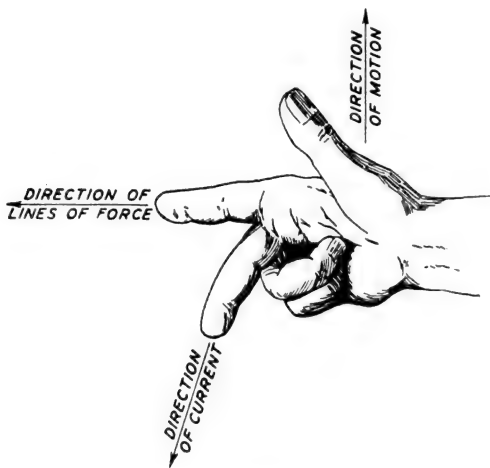
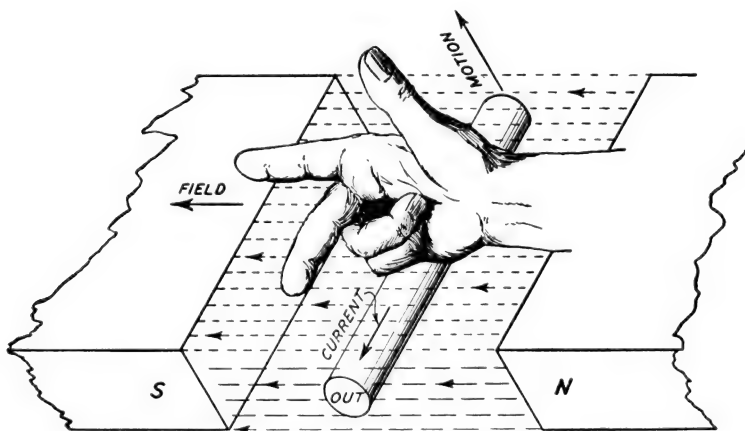
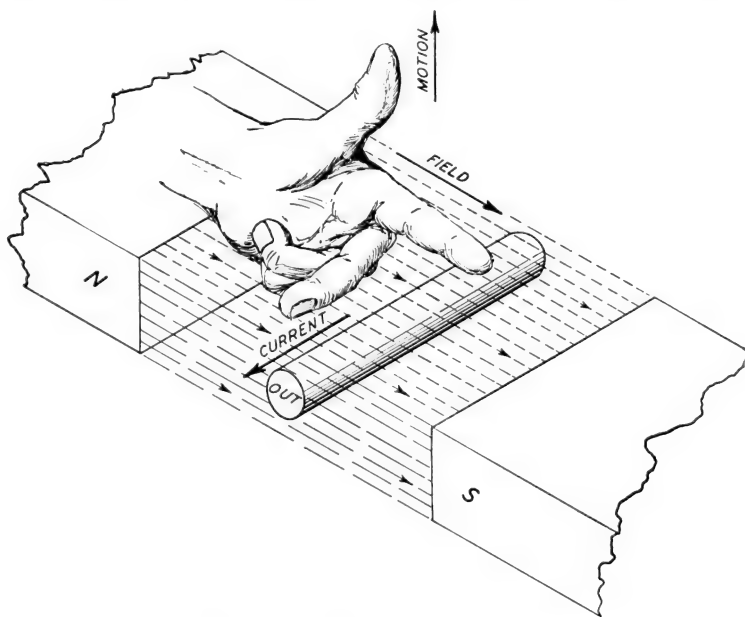

Fig. 12. Application of Fleming's Right-Hand Rule for Generators
Fig. 13. The Application of the Right-Hand Rule for a Generated Current
Fig. 16. Application of the Left-Hand Motor Rule
forefinger, and middle finger of the right hand, as shown in Fig. 12, so that they are at right angles to each other. Place the forefinger in the direction of the magnetic field (toward the south pole of the field) with the thumb in the direction of the motion; then the middle finger, Fig. 13, placed along the conductor, will indicate the direction the current will take through the conductor.
In Fig. 13, the direction in the magnetic field is from right to left, the movement being up, the current must then come out of the conductor.
**Fleming's Left-Hand Rule for Motors.** An electric motor performs the reverse function of a generator, in that it changes electricity into mechanical power. For generators the Right-Hand Rule is used to determine the direction of current, Fig. 12. A motor being the reverse of a generator, the Left-Hand Rule is used to determine direction, as shown in Fig. 16. *Extend the thumb, forefinger, and middle finger of the left hand at right angles to each other. Place the forefinger in the direction of the magnetic field, with the middle finger in the direction of the current in the conductor; the thumb will then indicate the direction of motion.*